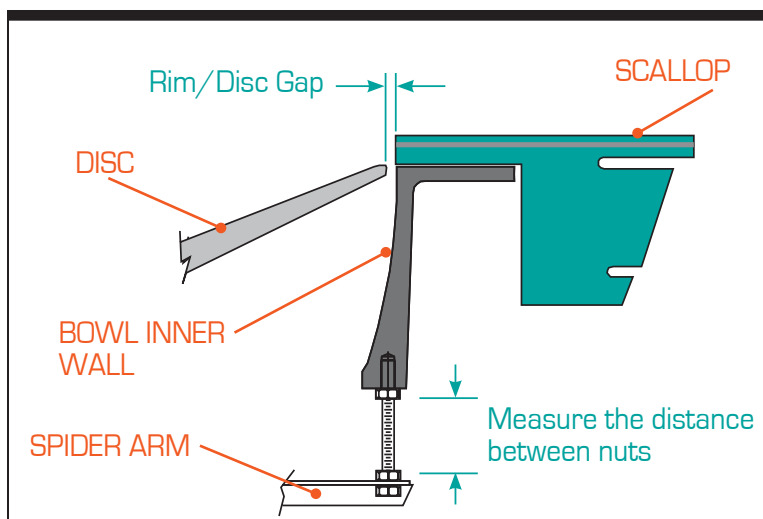

Figure 5-1. Measuring Bowl Gap When Replacing Standard Bowl
- If machining enlarges the inner diameter of the bowl, you may need to replace the disc with a larger one (custom-sized) from your direct supplier. If you do not obtain a larger disc, the gap between the disc and the inner diameter of the bowl may pinch or snag product (see Figure 5-1).
Step 1—Measuring and Removing the Bowl. Measure the height between the bottom of the bowl, and the top of the spider arm (where the threaded rod connects the two parts - refer back to Figure 5-1). Loosen and remove the bottom nut on the spider arm (on each of the eight (8) arms) and remove the bowl - pulling it up and away from the feeder.